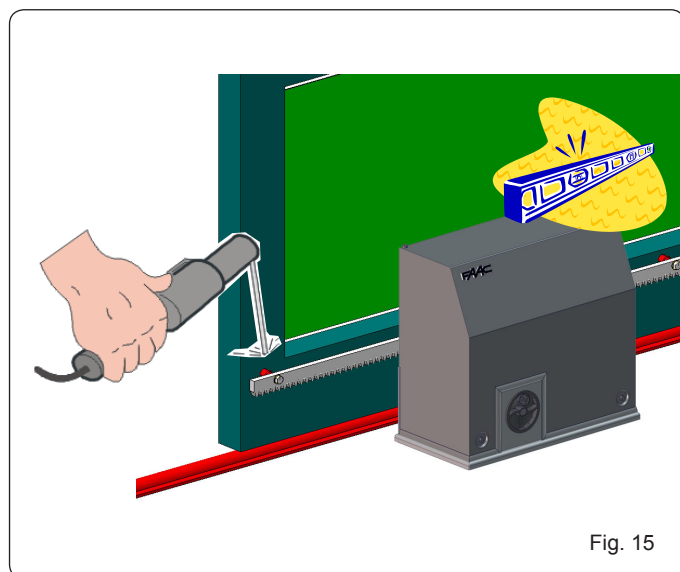

Fig. 15
3. Evenly rest the first section of the rack on the pinion and weld the threaded pawl to the gate, as shown in Fig. 15.